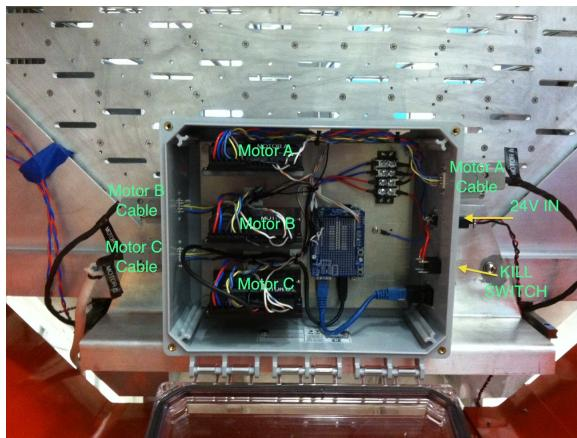

Figure 3: Electronics box located on the bottom of the back plane of the camera.
A web interface is hosted on an Arduino Yun to command the three steppers. The Yun is housed in an electronics control box (see Fig. 3) that is mounted near the bottom of the back plane of the camera lattice. The wiring diagram for this electronics control box is shown in Fig. 13.
- Power the electronics box. You'll need to make sure that the green button on the side of the box is clicked-in. See Fig. 3 for a picture of the electronics box that houses the Arduino and stepper motor drivers (Fig. 13 shows the electrical schematic).
1. Replace the Arduino Yun in the electronics box (Fig. 3) with a new one from the telescope toolkit. You will need to take the PCB shield on the Arduino carefully, the wires soldered to this shield are tight and you don't want to bend the pins from the shield as you are taking it off. Once you have the shield off, the Arduino is mounted to the bottom aluminum plate in the box by three screws (flathead screwdriver needed for 4-40, 7/16" screws). Each of these screws additionally has a plastic standoff between the Arduino PCB and the plate, catch them as you are taking the Arduino